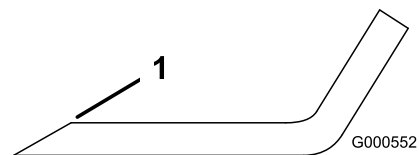

Figure 106
1. Use a file to sharpen the cutting edge at both ends of the blade (Figure 106).
Note: If the blade is not balanced, file some metal off the end of the sail area only (Figure 106).